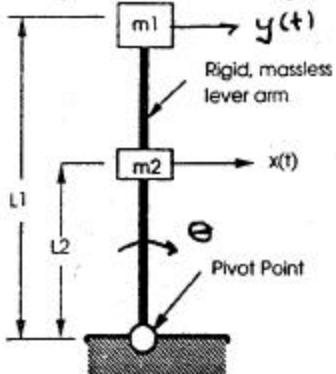

Figure 1
- a. Use the concept of equivalent kinetic energy to find the equivalent mass for the system shown in Fig. 1. That is, find M_e in terms of m_1 , m_2 , L_1 and L_2 so that the kinetic energy of the lever system is equal to $\frac{1}{2}M_e(\dot{x})^2$.